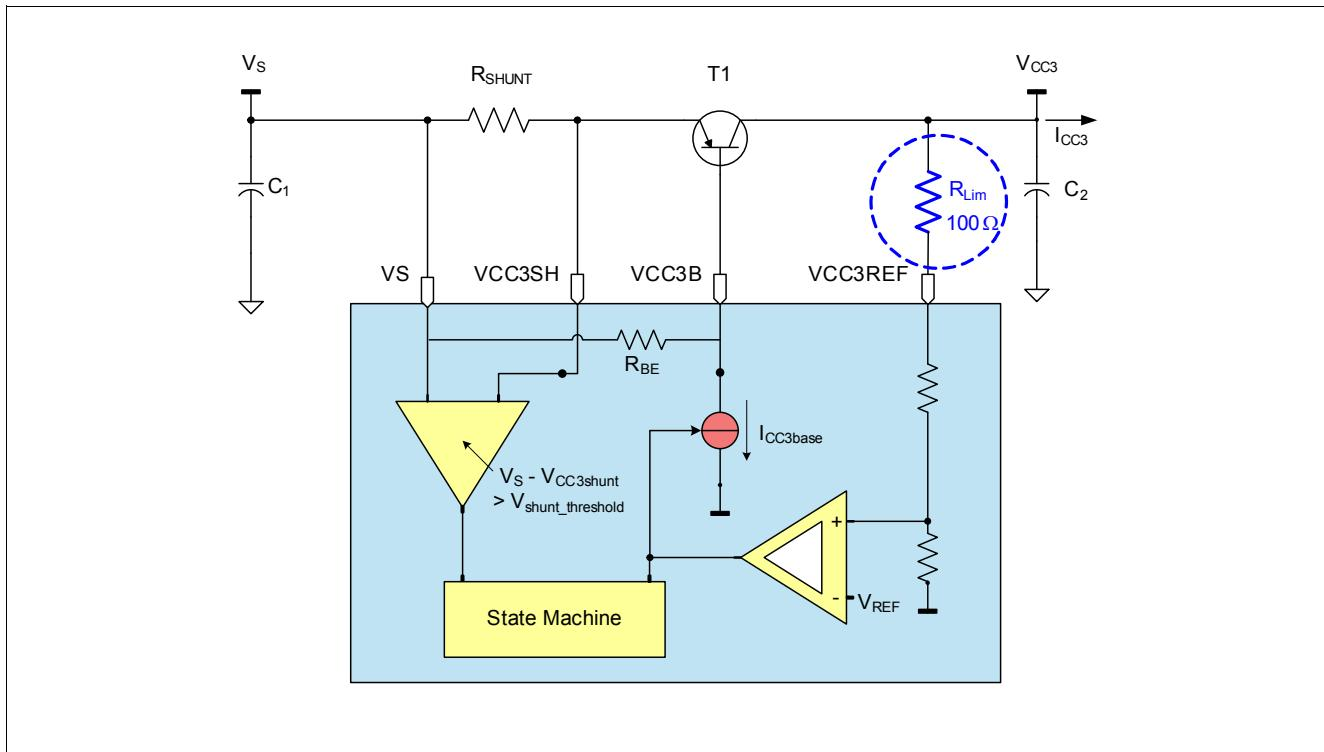

Figure 19 Protecting the VCC3 against inductive short circuits when configured as an independent voltage regulator for off-board supply
*Note: If the VCC3 output voltage is supplying external off-board loads, the application must consider the series resonance circuit built by cable inductance and decoupling capacitor at the load. Sufficient damping must be provided (e.g. a 1000Ohm resistor between the PNP collector and VCC3REF with 10uF capacitor on collector - see also **Figure 19**).*